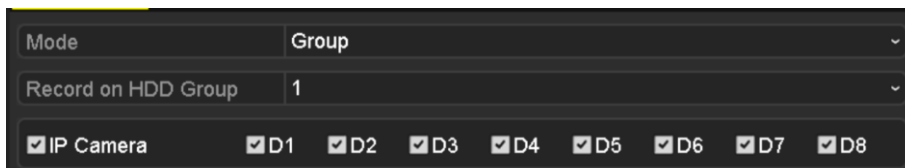

Figure 12-13 Storage Mode Interface
Step 2 Set the **Mode** to Group, as shown in Figure 12-13.